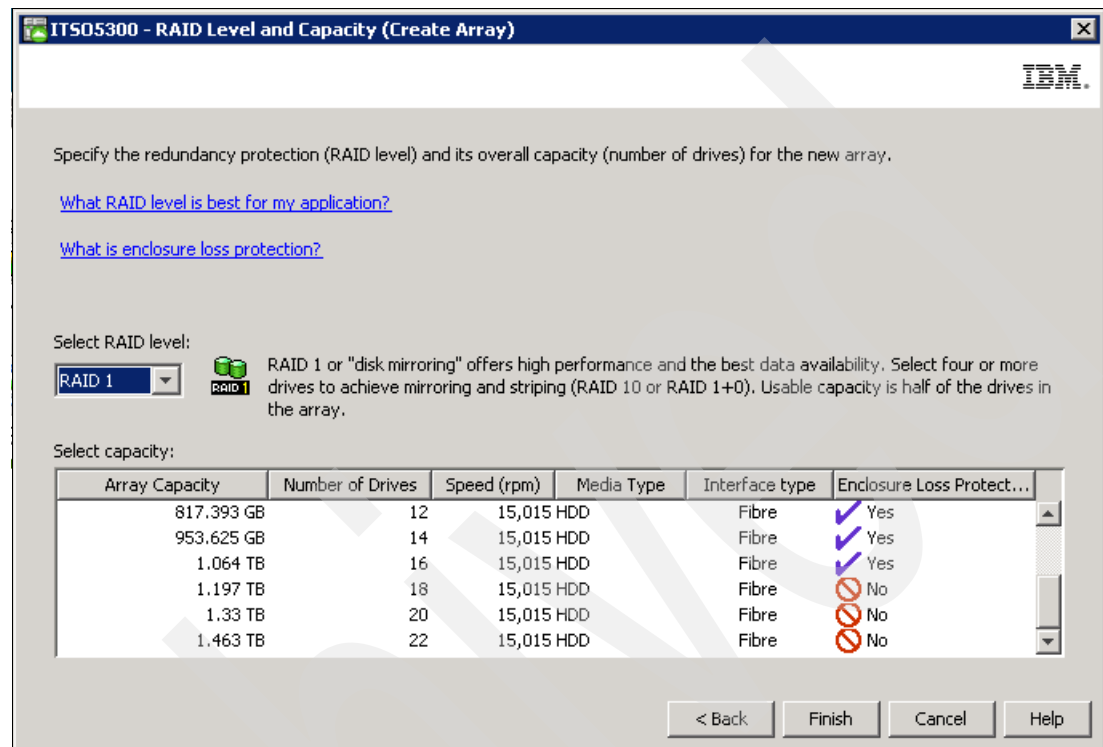

Figure 3-8 Enclosure loss protection with Automatic configuration
- Specify the array details. You have two choices, automatic and manual. The default is the automatic method. In automatic mode, the RAID level is used to create a list of available array sizes. The Storage Manager software selects a combination of available drives, which it believes will provide you with the optimal configuration (Figure 3-8).